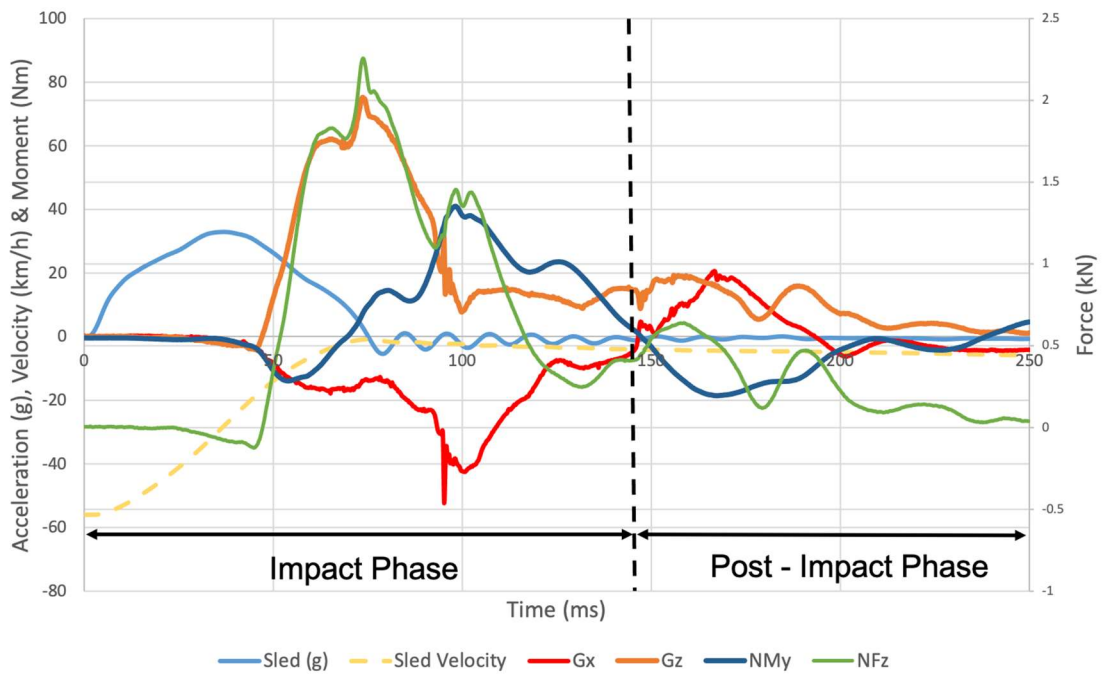

Figure 1: Example of *Impact phase* and *Post-impact phase* in frontal impact test
- **In frontal test.** The *impact phase* in the frontal impact test is defined by a period of time starting from time zero and ending at the point in time where the head acceleration in the x direction (Head g_x) crosses zero after the acceleration peak value. See Figure 1.
- **In frontal test.** The *post-impact phase* of the frontal impact test is defined by a period of time starting from the completion of the impact phase in the frontal test and ending at the point in time where the head acceleration in the x direction (Head g_x) crosses zero after the secondary acceleration peak value. See Figure 1